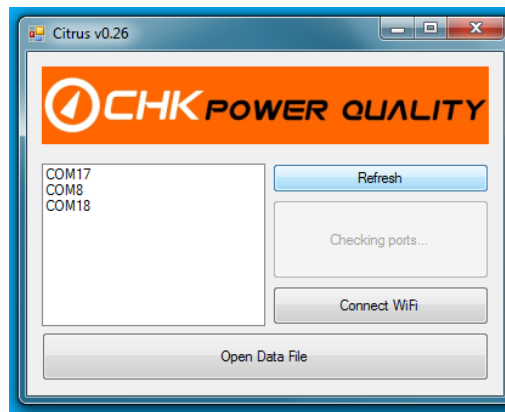

Figure 2.12.1
Step 1: Click on the 'Open Data File' button on the main 'Citrus' application menu shown in figure 2.12.1.